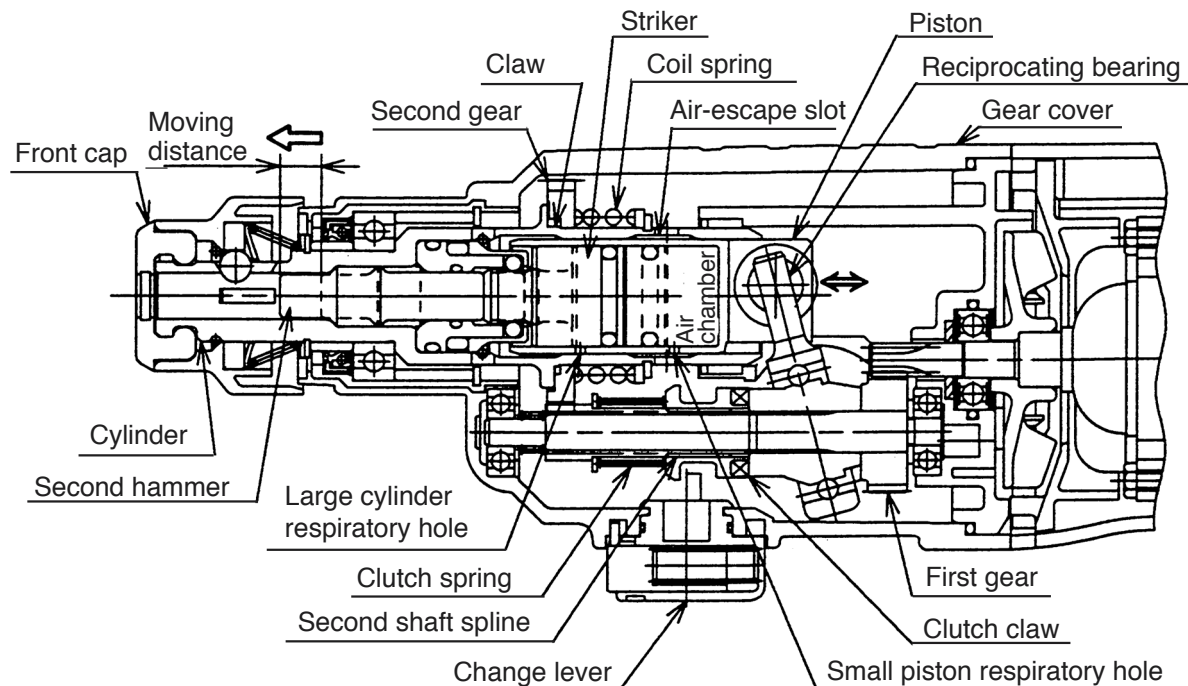

Fig. 3
The idle hammering prevention mechanism in the Model DH 24PB2 is different from that of conventional rotary hammers. When the drill bit is lifted from the concrete surface on completion of drilling, the second hammer moves to the position indicated by the continuous lines in Fig. 3, and the protruding (lip) portion at the tip of the striker is gripped by O-ring (C) mounted between the hammer holder and the damper holder. In this state, should the piston continue to move so that the small piston respiratory hole is blocked by the inner wall of the cylinder, the air in the air chamber will pass through the large piston respiratory hole and be released through the air-escape slot and large cylinder respiratory hole provided on the inner wall of the cylinder. Accordingly, there is no change in the air pressure within the air chamber, and movement of the striker (idle hammering operation) is prevented. The gripping force of O-ring (C) on the striker is so small in comparison with the conventional mouth system that practically no pressing force at all is required to restart the hammering operation.